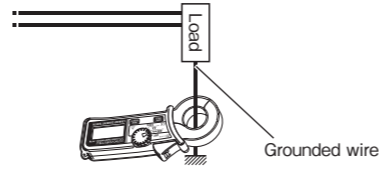

Fig.2 Measuring earth leakage current
- (3) Measuring earth leakage current (See Fig.2):